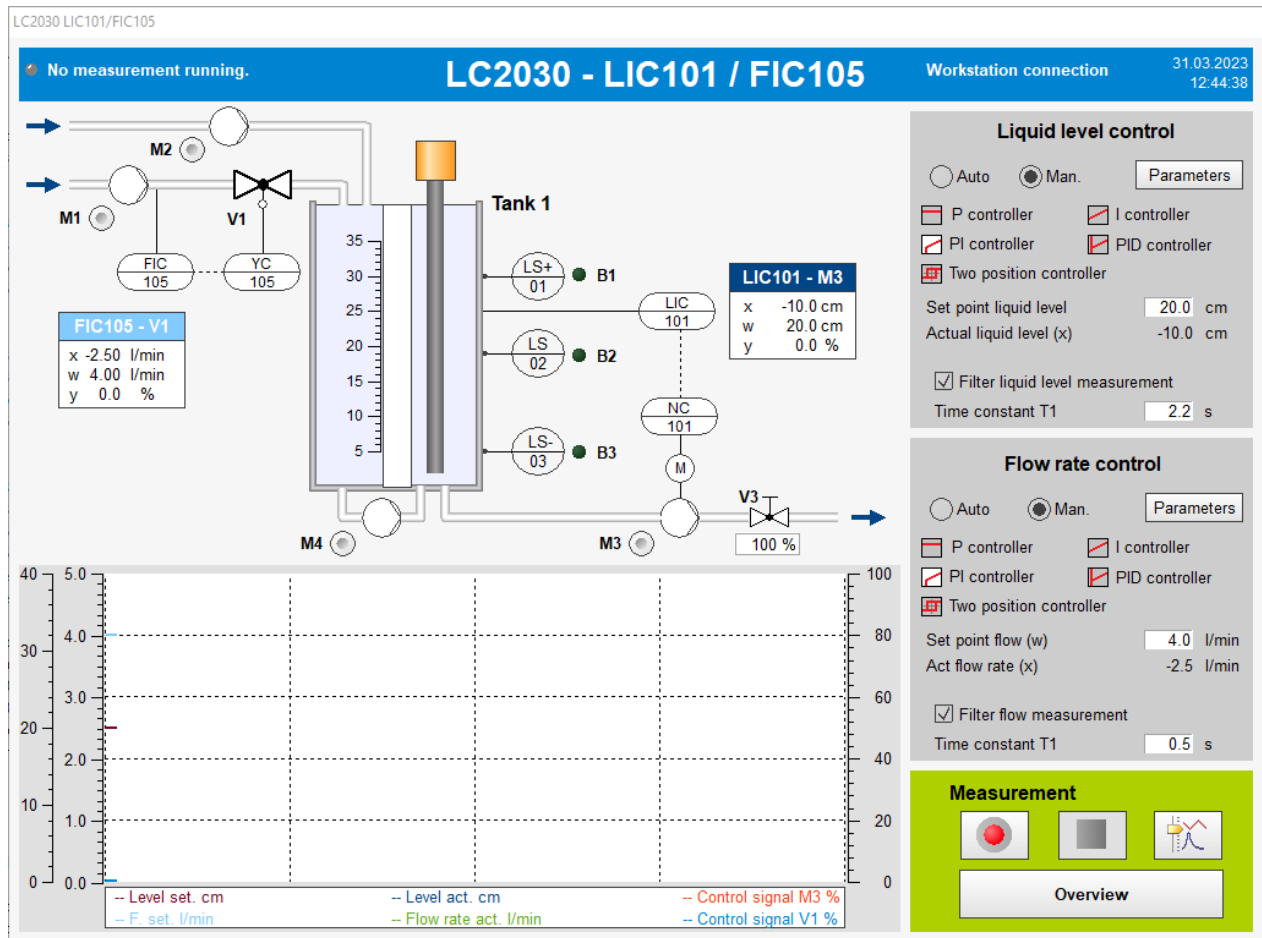

FIGURE 6 FLOW RATE CONTROL FIC105 COMBINED WITH LIQUID LEVEL CONTROL LIC101
- Liquid level LIC101 (outflow) and flow rate FIC105 (inflow) (Figure 6)